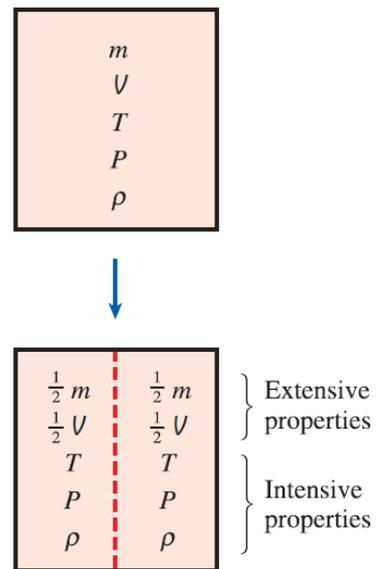

Fig.1.8 - Criterion to differentiate intensive and extensive properties
**Note:** An easy way to determine whether a property is intensive or extensive is to divide the system into two equal parts with an imaginary partition, as shown in Fig.1.8. The value of intensive properties remains the same as the original system, whereas extensive properties became half.